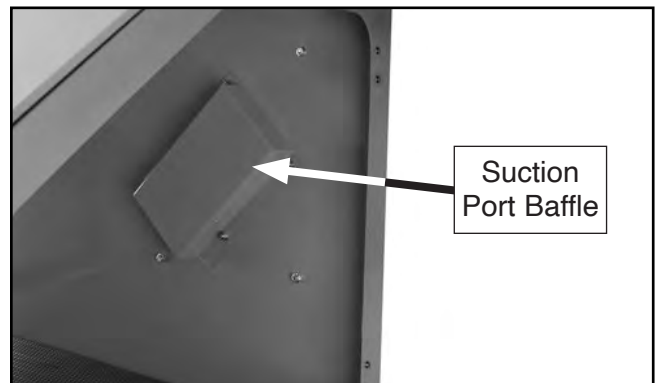

Figure 9. Suction port baffle.
8. Using Phillips screwdriver, remove suction port baffle (see **Figure 9**).